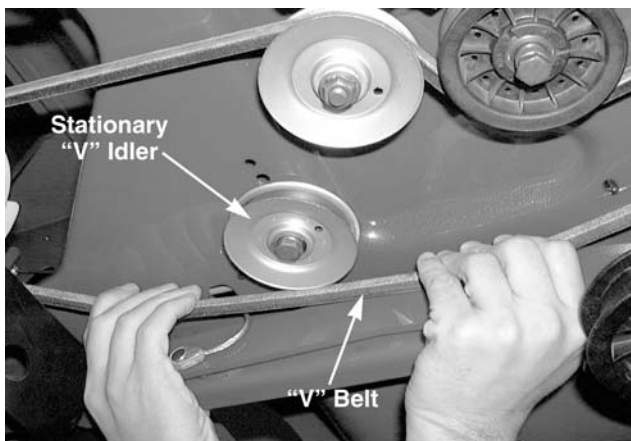

Figure 9-40
4. Release the "V" belt slowly. See Figure 9-40.